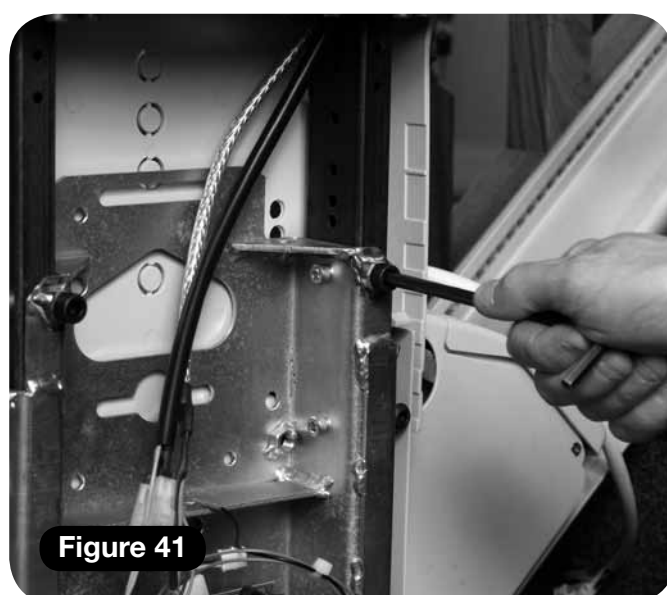

Figure 41
- 3 Tighten the seat post stabilising bolts (**Figure 41**), and tighten the safety bolt.